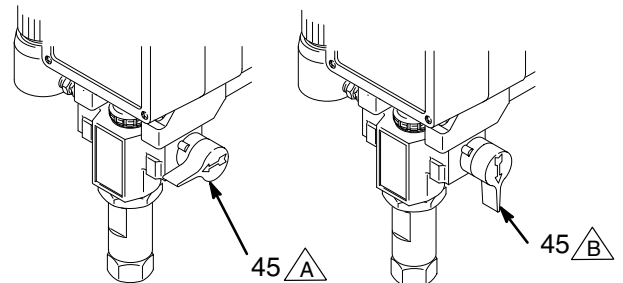

Fig. 5
Use the pressure drain valve (45) to relieve fluid pressure from the pump and to help prime the pump. If the valve senses an overpressure condition, it opens automatically to relieve fluid pressure. If this happens, stop spraying immediately, shut off and unplug the sprayer. Correct the problem before using the sprayer again. Refer to Troubleshooting, page 13. See Fig. 5.